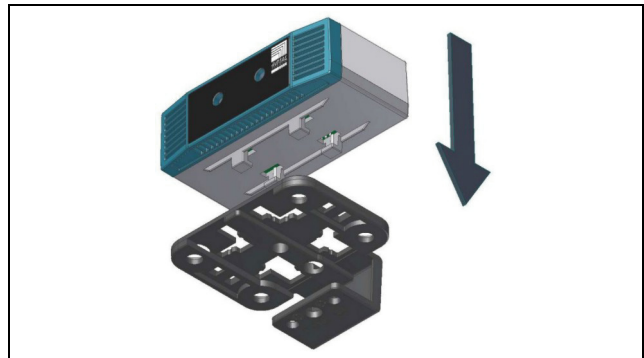
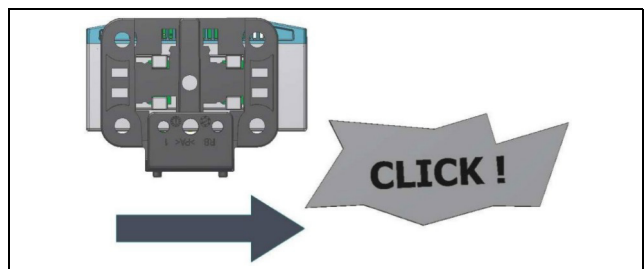

Fig. 2: Attaching the sensor to the bracket
Fig. 3: Latching the sensor into place on the bracket
- Then place the CAN bus sensor on the bracket (fig. 2) and latch it in place (fig. 3).